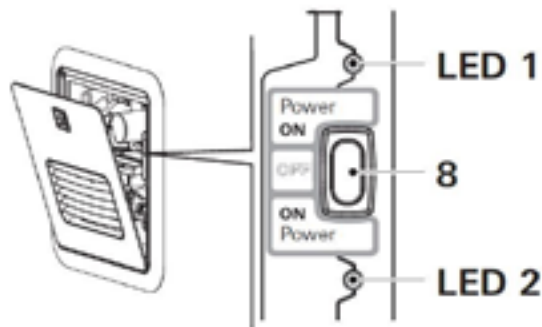

Fig. 8
- 2 To switch on the appliance, switch the POWER switch (Fig. 8 – 8) to one of the two “ON” positions.
Both ON positions on the POWER switch have the same function. Choose your preferred position. When the green power ON LED 1 (Fig. 8 – LED 1) is lit, the appliance is switched on. If the red error code LED 2 (Fig. 8 – LED 2) is lit /
3. Switch off the appliance at the POWER switch (Fig. 8).
- The green Power-ON LED 1 (Fig. 8) extinguishes.